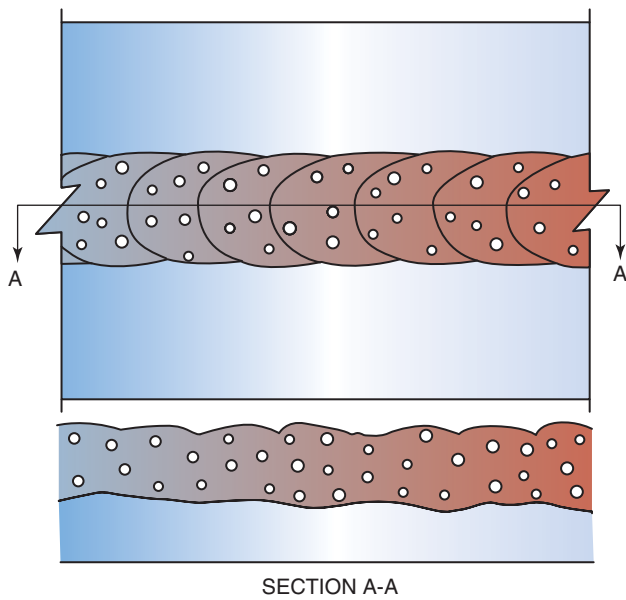

Figure 9.1 Uniformly scattered porosities
- Uniformly scattered porosity is most frequently caused by poor welding techniques or faulty materials, Figure 9.1.